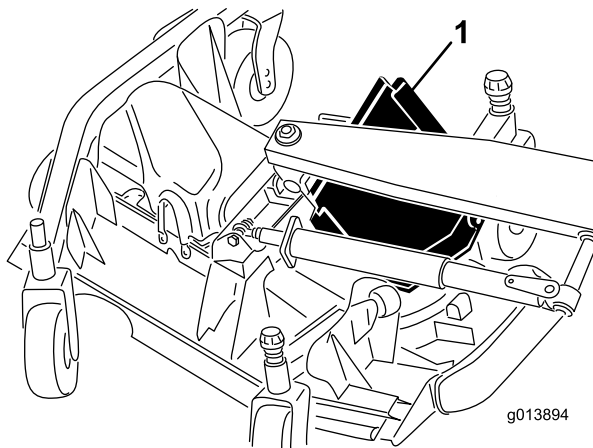

Figure 49
6. Lift the front edge, guide it between the lift arm and the roller to remove it (Figure 49).